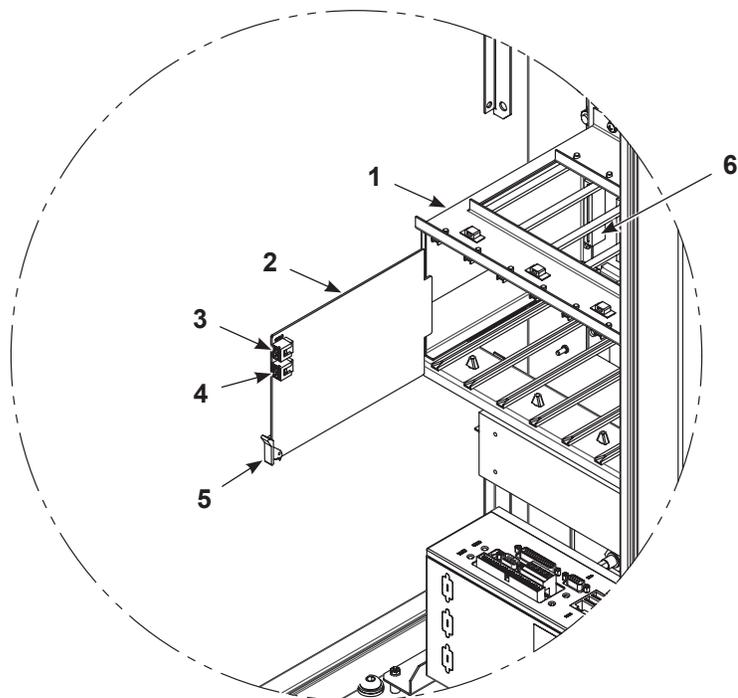

Figure 5-1 Spray Gun Control Card Replacement
See Figure 5-1. Spray gun control cards (2) are installed in the card cage from left to right. Each card controls two spray guns: the bottom receptacle is the odd spray gun number; the top receptacle is the even spray gun number.